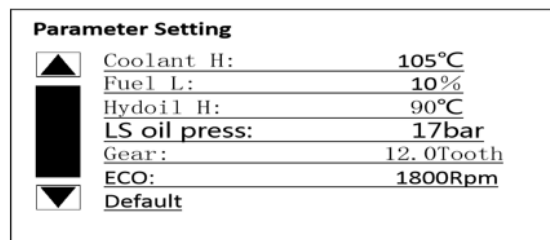

Figure 17
- 3) Press  to enter the **parameter setting** page (figure 17).